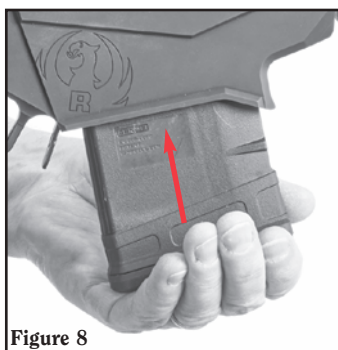

Figure 8
3. Hold the magazine as shown in Figure 8 and insert it all the way up into the magazine well. An audible “click” should be heard and felt as the magazine latch engages.
4. Insert loaded magazine (see Figure 8, p. 17). Do not chamber a cartridge until you are ready to shoot.